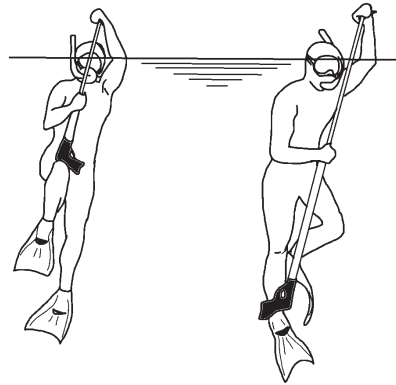

Fig. 8
- 6) Loading. Remove the loader from the handle. Support the handle of the gun against your thigh or foot, depending on the length of the gun (see Fig. 8). Insert the shaft into the gun, being sure that the shaft is centered in the muzzle. Avoid inserting the shaft at an angle which may cause internal damage to the gun. Place the loader over the spear tip and push the spear straight down the barrel of the gun until it latches. If your spear shaft becomes bent replace it. Do not attempt to force it into your gun as this can lead to internal damage.
Appuyer la crosse du fusil contre la cuisse ou le pied (Fig. 8) selon la longueur du canon, saisir le fusil par l'ogive, dont la forme a été conçue spécialement pour cette prise.